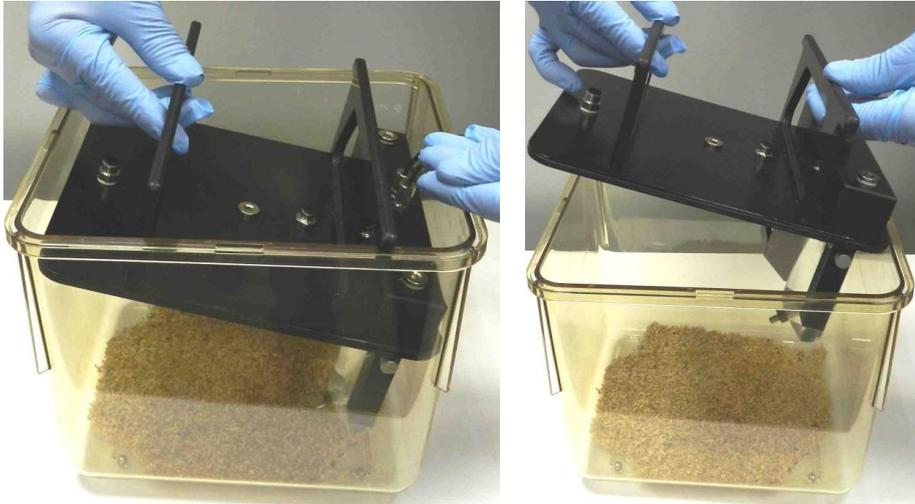

Figure 46: Removing the lid
- Hold the lid grips with one hand (as shown in Figure 46) and pull upwards from the grip located at the opposite side of the transducers. The other hand can help by holding the cage.